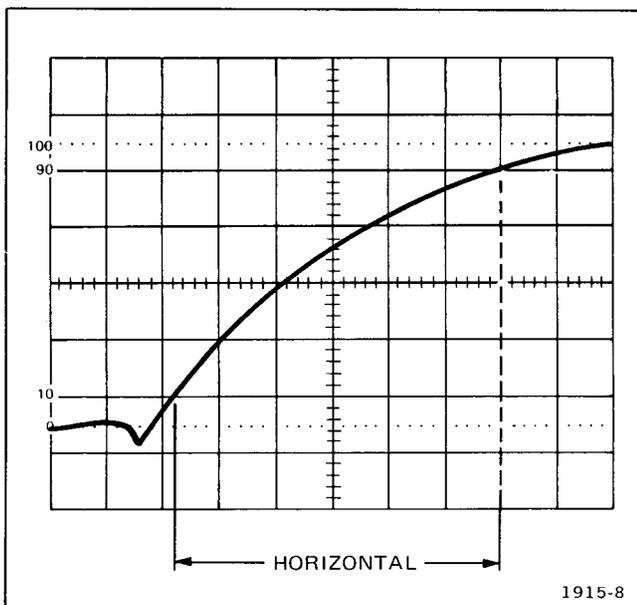

Fig. 2-10. Measuring risetime.
7. Adjust the horizontal POSITION control to move the 10% point of the waveform to the second vertical line of the graticule (see Fig. 2-10).
EXAMPLE. Assume that the horizontal distance between the 10% and 90% points is six divisions (see Fig. 2-10) and the TIME/DIV switch is set to $1 \mu s$.